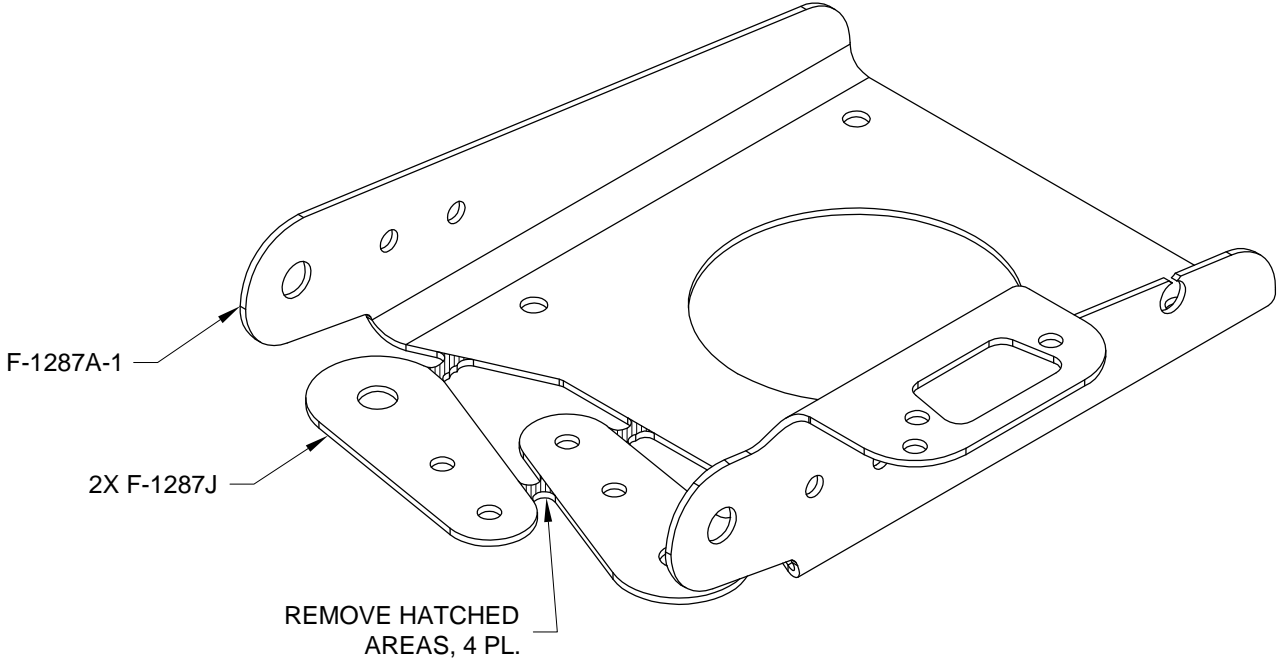

FIGURE 1:
Step 1: Separate the F-1287J Doublers from the F-1287A-1 Servo Tray by removing the material called out in Figure 1.